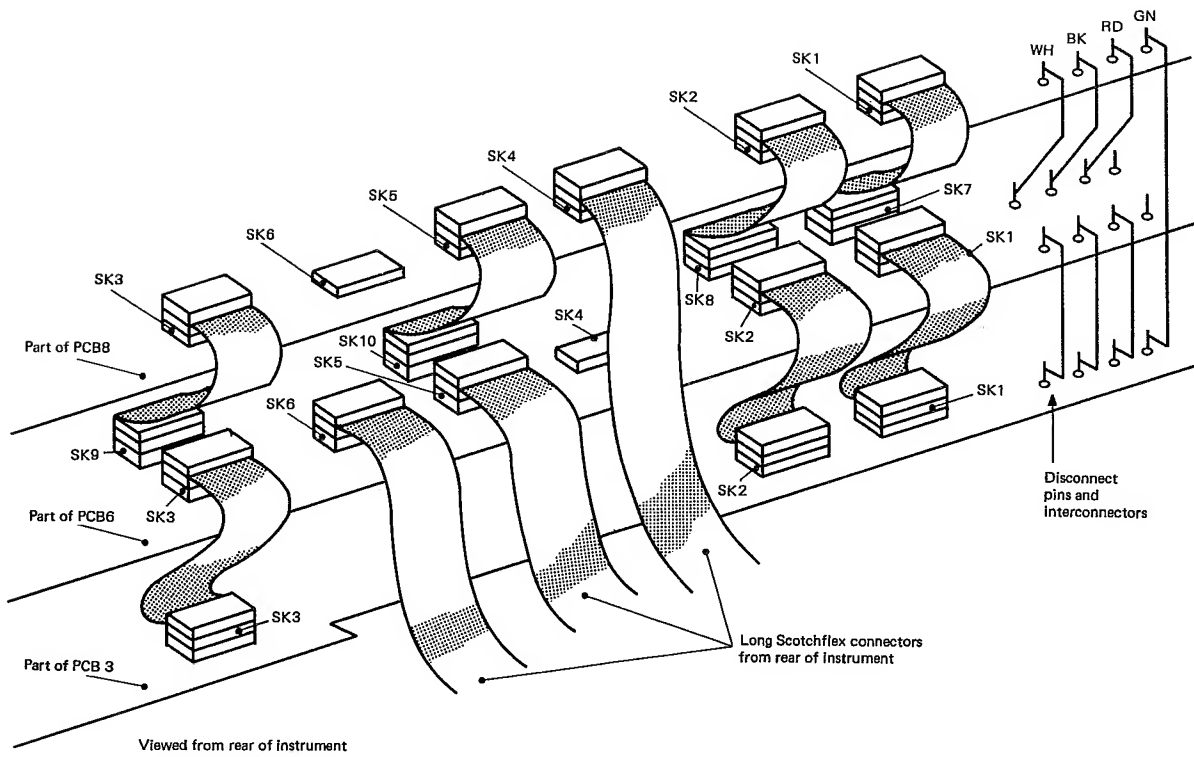

Fig. 4 Interconnections to PCB 6 and PCB 8
5. Before locating pcb 6 above pcb 3, make the electrical connections to pcb 3 as shown in Fig. 4. (Note that the short Scotchflex connectors point towards the front of the instrument).
7. Make the remaining electrical connections to pcb 6 (Fig. 4) before locating pcb 8.
9. Make the electrical connections to pcb 8 as indicated (Fig. 4).